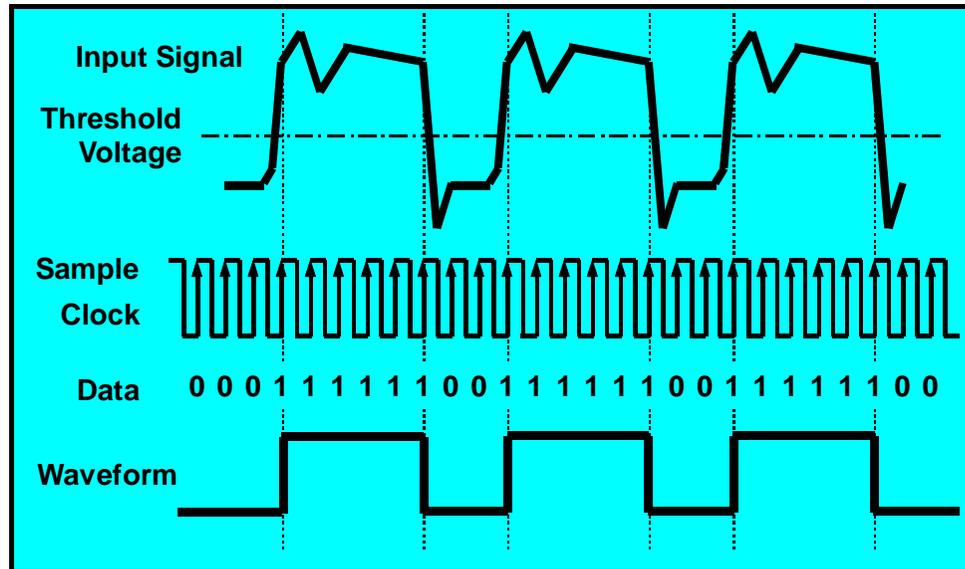

Figure 2: Single channel Input Waveforms
**Figure 2** below is a waveform representation of the input circuit described above. As can be seen, the input signal is converted into a series of ones and zeroes on the rising edge of the sample clock. This series of ones and zeroes from each channel is combined with other channels to form a data word for each sample period. This data word is then written into SRAM between each sample period. The processor (in this case, a Handspring Visor), will then read the SRAM, and convert the digital data into a waveform for the user to analyze.